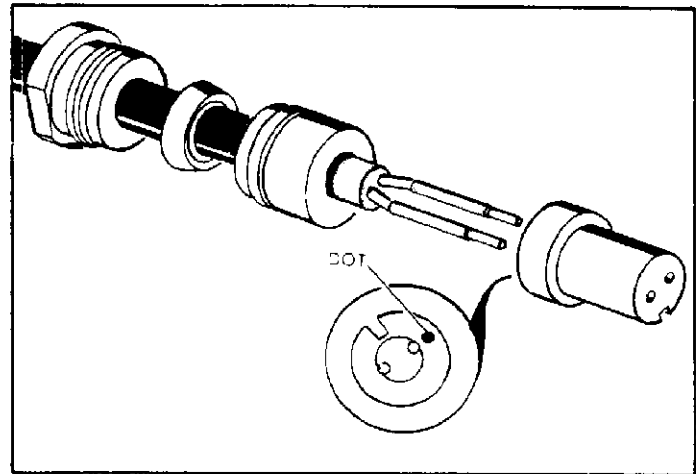

Figure 7
**NOTE: THE CONTACT ON THE UNPLATED COPPER LEAD SLIDES INTO THE INSULATOR HOLE ADJACENT TO DOT, AS SHOWN IN FIGURE 7.**